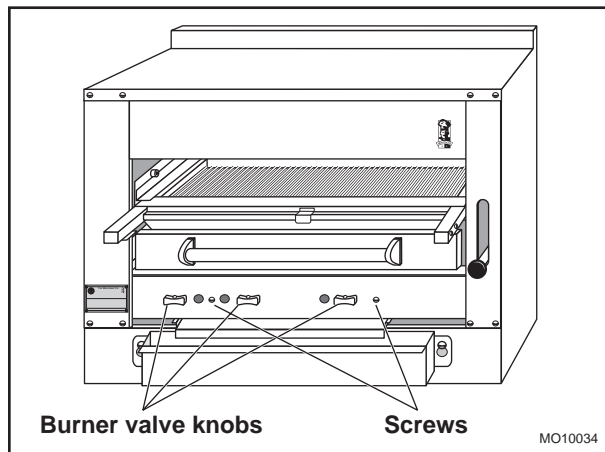

Figure 5. Control Valve Knobs
4. Remove the main burner control valve knobs, Figure 5.